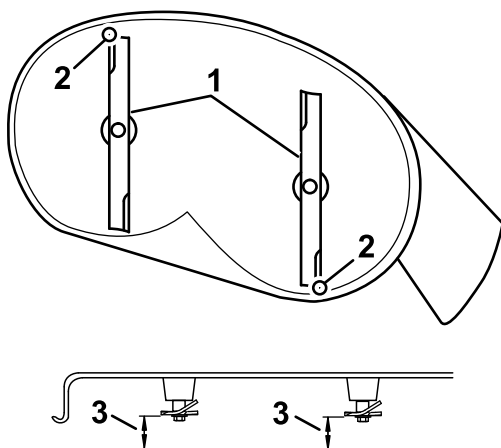

Figure 59
4. Carefully rotate the blades so they are facing front to rear (Figure 59).
5. Measure from the tip of the front blade to the flat surface and the tip of the rear blade to the flat surface (Figure 59).